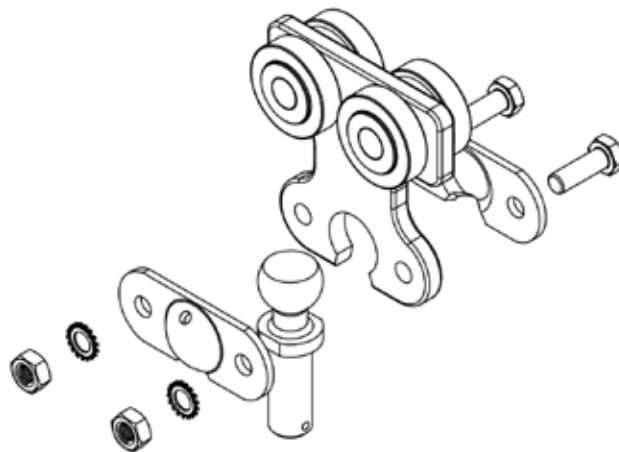

Fig. 59
Step 1 : Unscrew the bolts and nuts, releasing the housing plates and rotating bolt. (fig. 59)